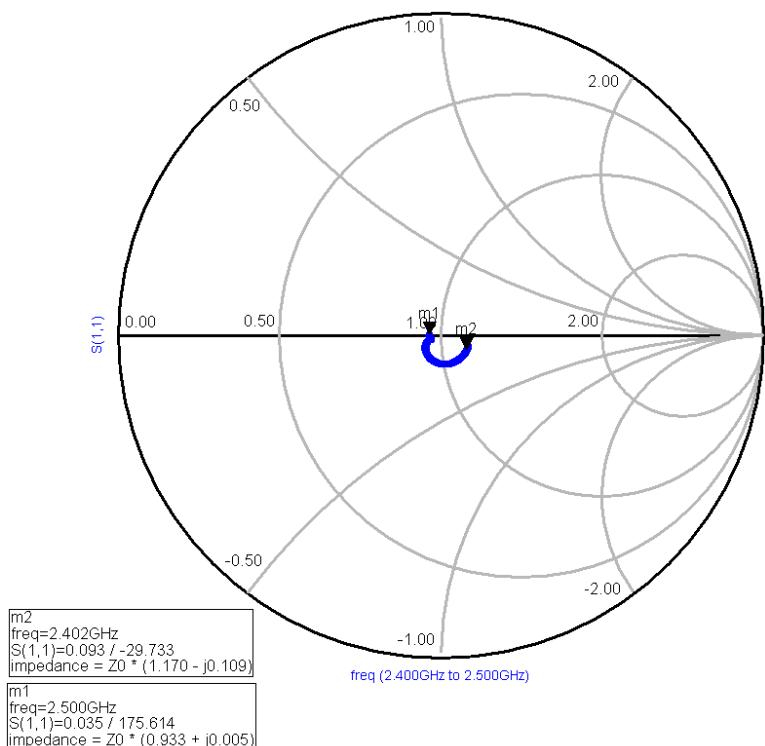

Figure 4. TX and RX Pin 50Ω Impedance Characteristics
(1) Typical operating conditions are at 3.3V operating voltage and 25°C ambient temperature.
(2) The receiver sensitivity is measure at the device interface.
(3) The $f_0 = -64 \text{ dBm}$ Bluetooth modulated signal, $f_1 = -39 \text{ dBm}$ sine wave, $f_2 = -39 \text{ dBm}$ Bluetooth modulated signal, $f_0 = 2f_1 - f_2$, and $|f_2 - f_1| = n \times 1 \text{ MHz}$, where n is 3, 4, or 5. For the typical case, $n = 3$.
(4) Reference Smith chart Figure 4.
(4) Modulation index set between 0.28 and 0.35.
(5) Not tested in production.
(6) Out-of-Band spurs only exist at 2nd and 3rd harmonics of the CW frequency for each channel. Performance of the radio is significantly better than BT 1.1 specification.
(7) Reference Smith chart Figure 4.